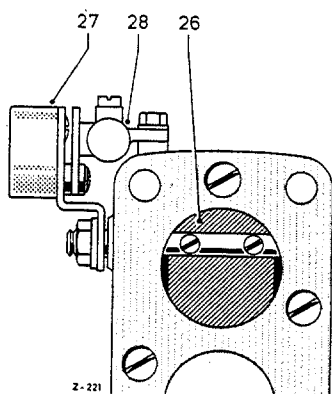

Fig. M 31 S/02
Both stages of the carburetor are combined in one housing (Fig. M 31 S/01). Throttle valve (23) of Stage 1 is located as usual in the lower part of the carburetor, set at an angle of  $8^\circ$ . Stage 2, however, has two throttle valves, set at an angle of  $17^\circ$ , the one (25) in the center section of the carburetor and the other (26) in the lower section. Throttle valves (23) and (25) of Stages 1 and 2 are coupled together by a linkage. The second throttle valve (26) of Stage 2 is not coupled to the other two. It is operated automatically by the pressure flow. The off-set shaft of the throttle valve is fitted with a lever, bearing a weight (27) (Fig. M 31 S/02).
This weight keeps the throttle valve closed under normal conditions. It is only when a certain pressure, coupled with decreased pressure in the body of Stage 2, develops that the effect of the weight is overcome and this throttle valve, the so-called vacuum valve, opens. In order to prevent the vacuum valve from being forcibly opened by the centrifugal effect on narrow left-hand bends, the movement of the vacuum valve is neutralized via the valve lever by an oil shock-absorber (28) (see Fig. M 31 S/02).